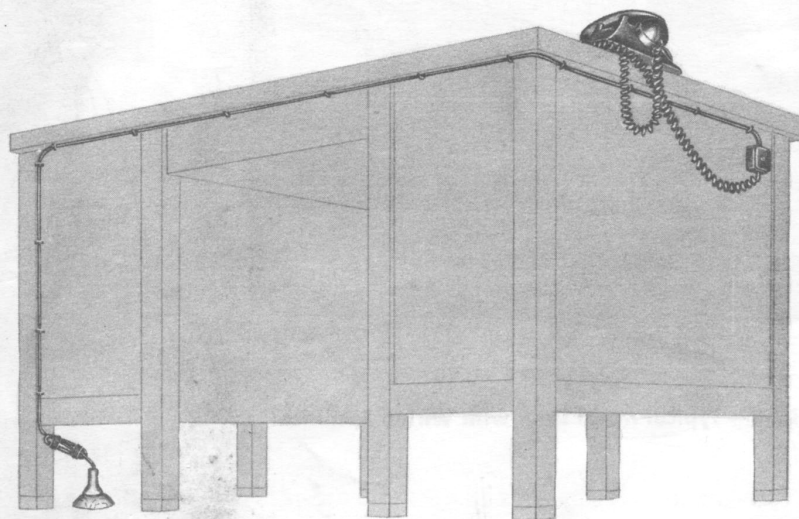

Fig. 10 — Typical Wiring of Desk Having No Wiring Facilities
4.02 Wiring of a desk having no facilities for concealing wire and cable is shown in Fig. 10.